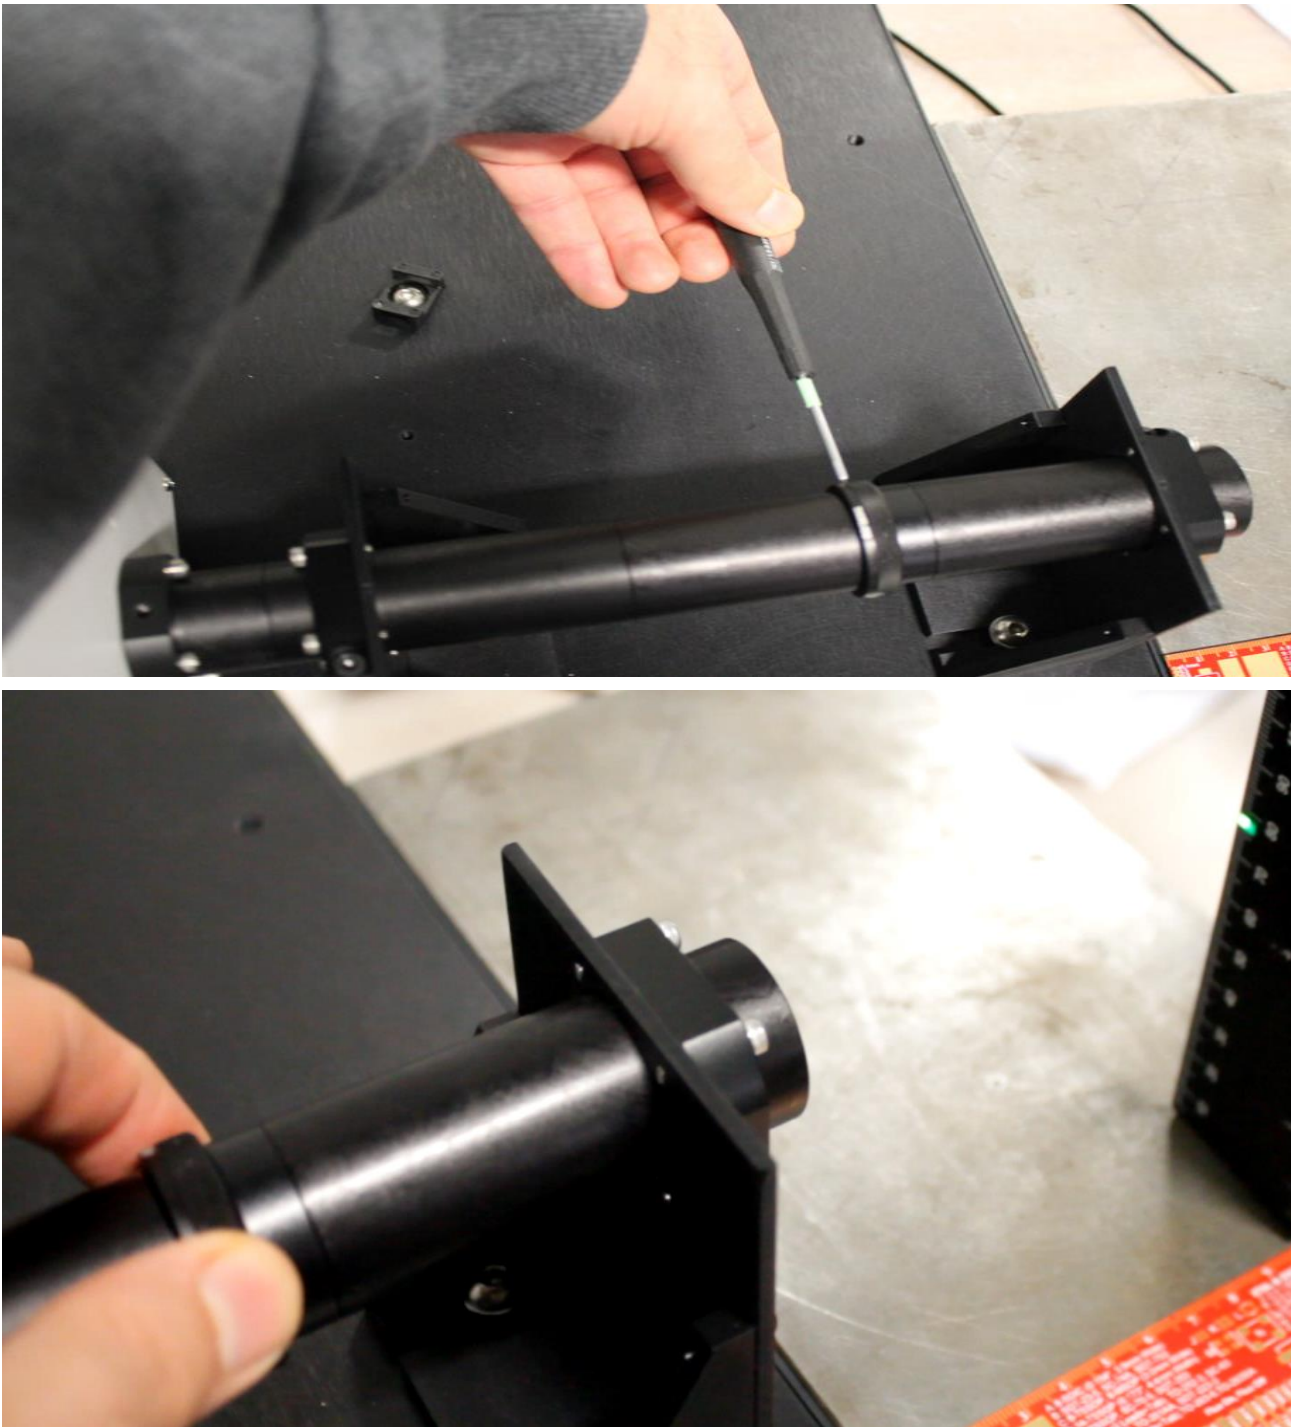

Figure 60. Unlocking and changing the aperture size of the adjustable iris to modify the size of the focused beam.
- 2- Next, use the adjustable ring of the iris to change the size of the iris. If the iris had laser-engraved scale at the side of it, move the ring with laser engraved number on it to align the desired number in front of the straight line at the fixed ring of the iris. This will nominally set the aperture opening of the iris (Figure 60).